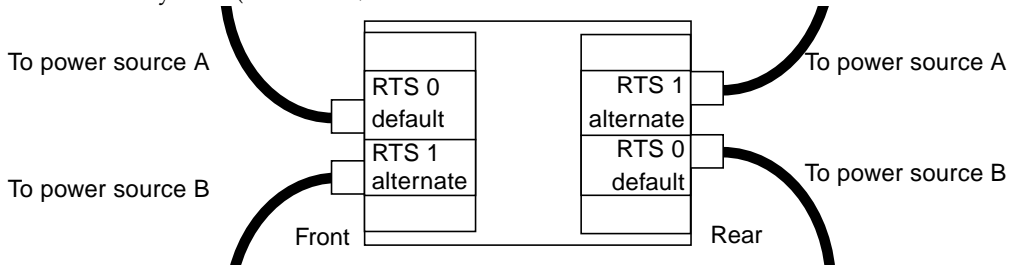

FIGURE 3-1 Two RTU Assemblies and Two Independent AC Power Source
- In configurations with two RTU assemblies and two independent AC power source there will be four cables to connect, two on the front, and two on the rear of the system (FIGURE 3-1).